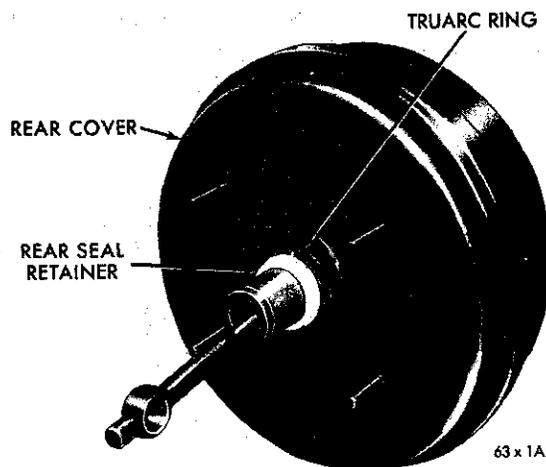
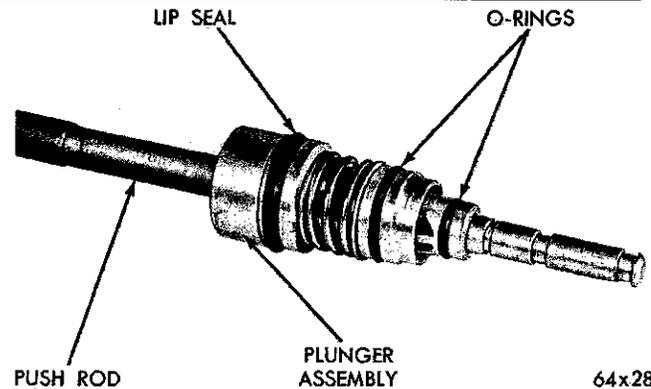

Fig. 27—Rear Seal Retainer
Fig. 34—Valve Plunger Assembly
(8) Using a plastic or rubber hammer tap the outside edge of the rear vacuum housing and separate the housings.
(9) Remove the large snap ring from the rear seal retainer (Fig. 27), and remove the diaphragm, valve housing assembly and rear seal from the rear housing.
(19) Remove the two "O" rings, seal and cushion ring from the valve plunger (Fig. 34).
(20) Remove the "O" ring from the outside diameter of the valve body.
(1) Install the "O" ring on the outside diameter of the valve body.
(2) Install the two "O" rings, and seal on the plunger assembly (Fig. 34).
(3) Install the cushion ring on the plunger assembly.
(4) Install the rear seal into the rear seal retainer with the lip of the seal toward the small end of the retainer.
(5) Install the "O" ring on the outside diameter of the rear seal retainer.
(6) Insert the rear seal retainer assembly into the hub of the rear cover.
(7) Holding the seal retainer in place invert the cover over a large socket to support the seal retainer in place.
(8) Apply downward pressure on the rear cover and install the retainer ring (Fig. 27).
(9) Install the plunger assembly into the valve body.
(10) Install the valve into the valve body with the rubber insert contacting the valve seat. Install the valve return spring over the valve.
(11) Install the load ring onto the plunger with the concave face out.